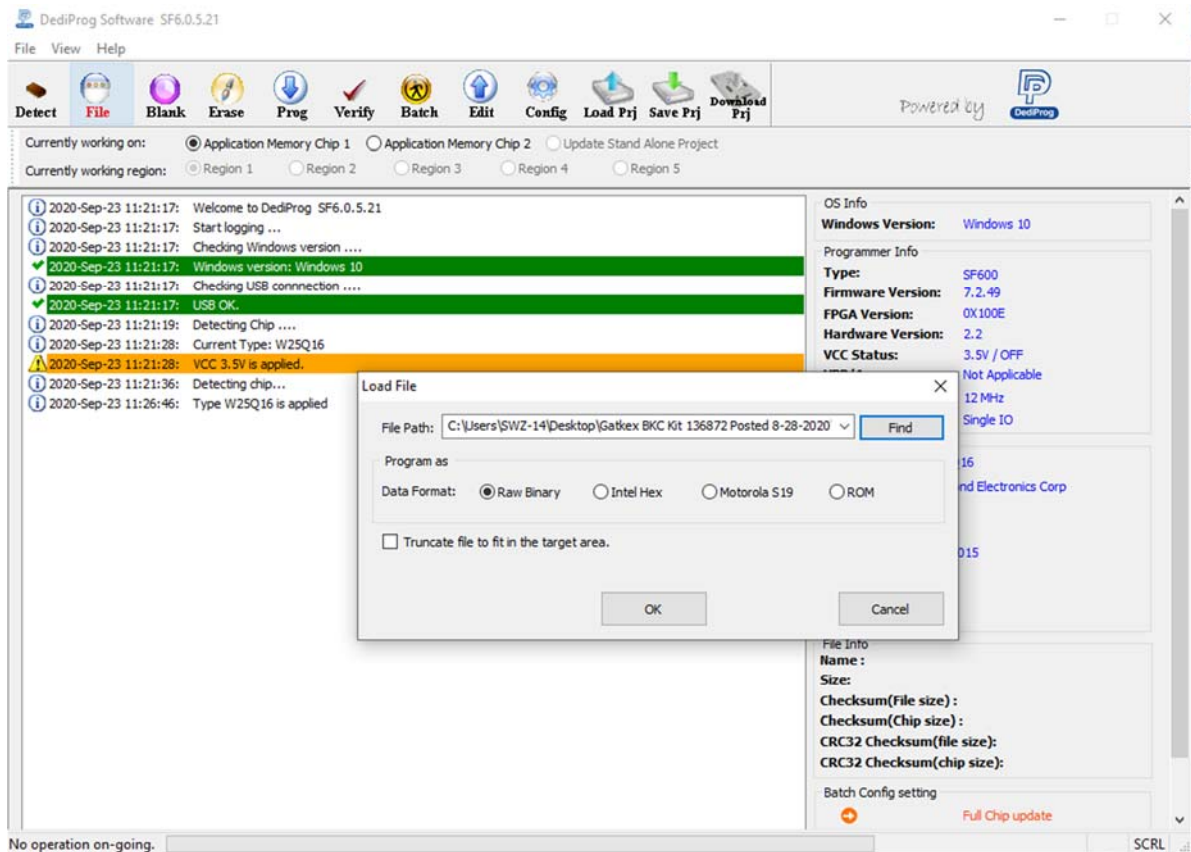

Figure 18: Load Intel USB4 Evaluation Dock bin file
- Step 3: File → load Delta Bridge FW from BKC file bin file (See Figure 18)